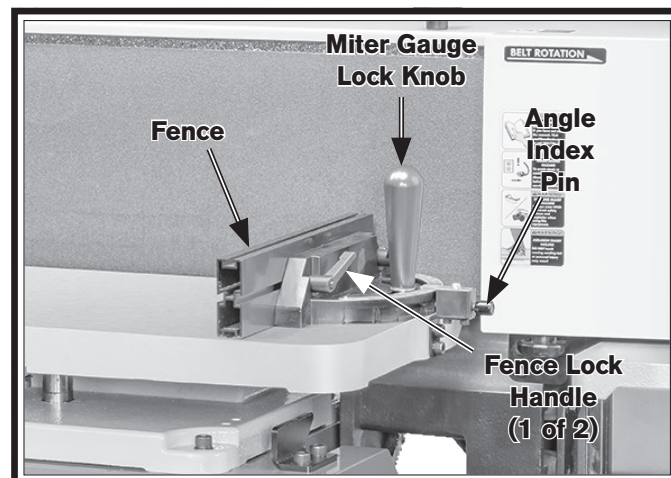

Figure 41. Main table miter stop.
The main table has a miter stop that adjusts between 0°–60° and has an adjustable fence (see Figure 41) for supporting the workpieces against the platen when it is perpendicular to the table.
2. Loosen miter gauge lock knob and (2) fence lock handles (see Figure 41).
3. Pull angle index pin out and rotate it until indicator displays desired angle (see Figure 41).
5. Adjust fence until there is a gap of no more than $\frac{1}{16}$ " between fence and sanding belt (see **Figure 41** on **Page 30**).
6. Tighten (2) fence lock handles to secure fence.